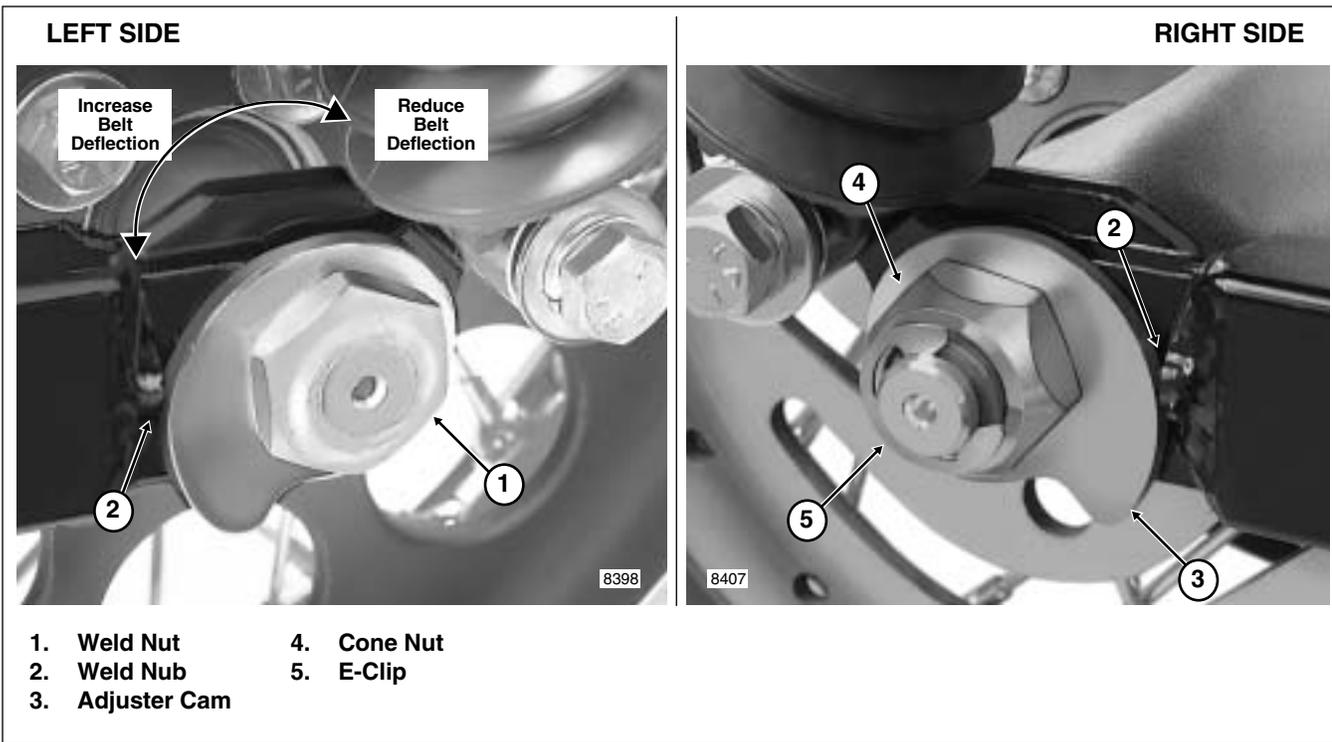

Figure 2-15. Move Rear Wheel Forward Until Adjuster Cams Just Contact Weld Nubs
- Verify that adjuster cam just contacts weld nub on both sides of rear swingarm. If necessary, push wheel forward slightly to achieve the desired result. Snug the cone nut to 15-20 ft-lbs (20-27 Nm). See Figure 2-15.
- Push wheel forward slightly so that adjuster cam just contacts weld nub on both sides of rear swing-arm. See Figure 2-15.